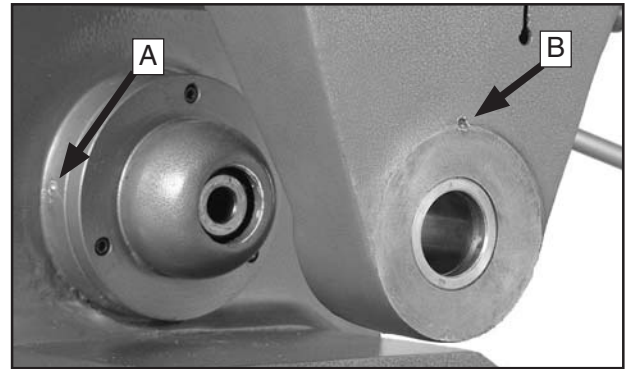

Figure 54. Back of machine ball oilers.
2. Refer to **Figures 54–60** to identify each of the twelve ball oilers.
Back of Model G0615 (Figure 54):